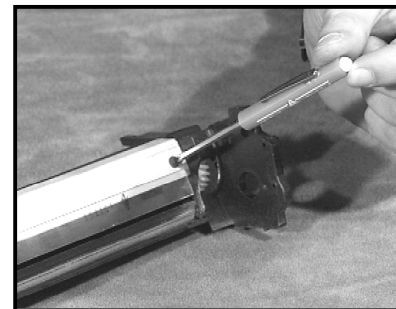

Figure 8
11. Locate and remove the screws securing the wiperblade in place. Inspect the blade for damage; replace if necessary. If you are reusing the blade, clean toner off with compressed air followed by a lint-free cloth saturated in 99% IPA (fig. 8).